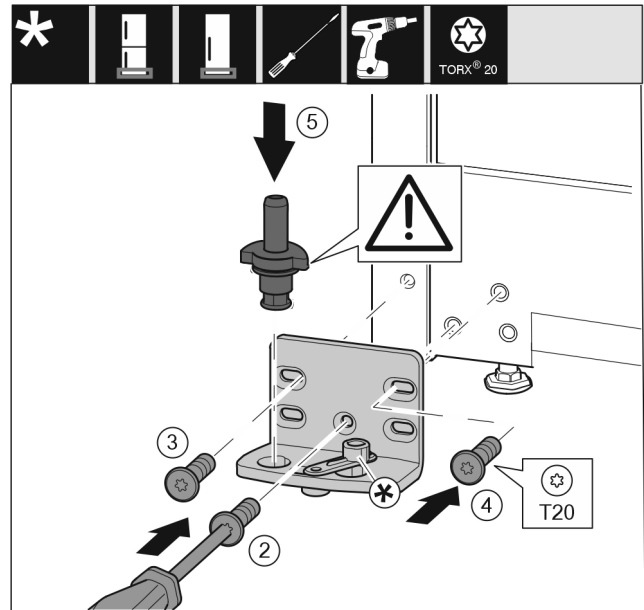

Fig. 36
- ▶ Attach the swap bearing block onto the other side and screw it on using a screwdriver. Start with the screw Fig. 36 (2) at the bottom center.
- ▶ Tighten screw Fig. 36 (3) and screw Fig. 36 (4).
- ▶ Insert the bearing pin Fig. 36 (5) completely. In the process, make sure that the latching cam shows towards the rear.
- ▶ Attach the swap bearing block onto the other side and screw it on using a screwdriver. Start with the screw (2) at the bottom center.
- ▶ Tighten screw (3) and screw (4).
- ▶ Turn the closing damper connection (5) by 180°. On the other side of the swap bearing block, screw it on with the screwdriver.
- ▶ Insert the bearing pin (6) completely. In the process, make sure that the latching cam shows towards the rear.